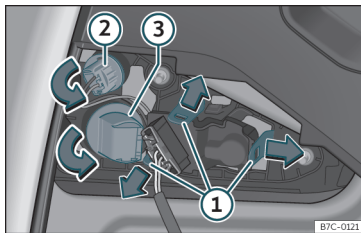

Fig. 94 Remove the bulb holder.
- Unlock the securing tabs from the bulb holder »» Fig. 94 ① or turn the bulb holder to the left ② and ③.